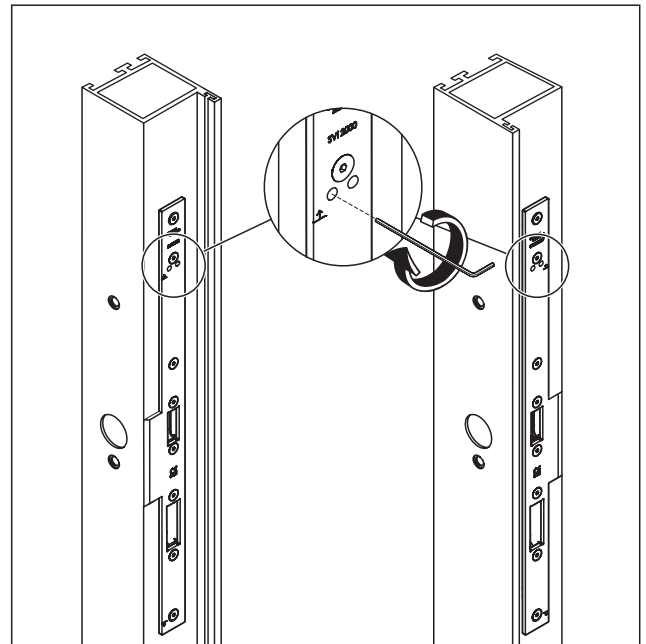

Fig. 56 Fix espagnolette bolt
2. Fix the upper espagnolette bolt through the drill hole in the forend with 1 Nm (Abb. 56).